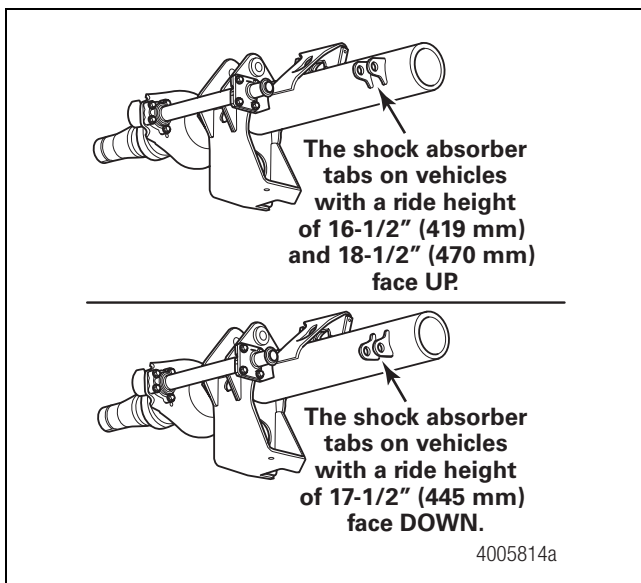

Figure 7
22. Tack weld the tabs in place. Run the outside welds. Remove the shock absorber. Run the inside welds. Make the welds 0.25-inch (6.35 mm) in width. Figure 7.